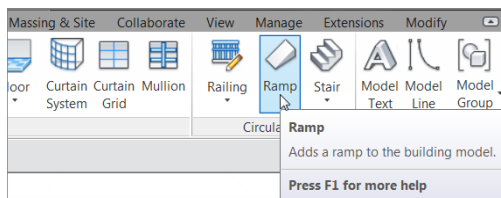

FIGURE 10.83: Click the Ramp button on the Architecture tab.
1. On the Architecture tab, click the Ramp button, as shown in Figure 10.83.